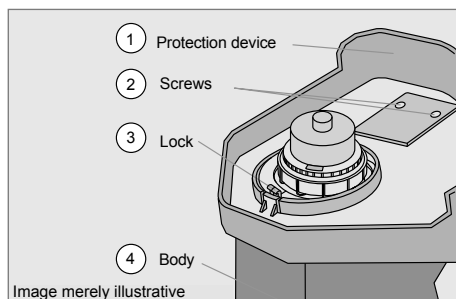

Fig. 3
- ✓ TRAPP lawn mowers/trimmers are already assembled when delivered with the exception of the protection device. It is conditioned together with the equipment in the same package. To assemble it, turn the lawn mower/trimmer upwards (Fig. 3).
- ✓ Place the protection device as per drawing, and fit it in lock (3) (Fig. 4). Press it to the body (4), put screws (2) in position and tighten them (Fig. 3).